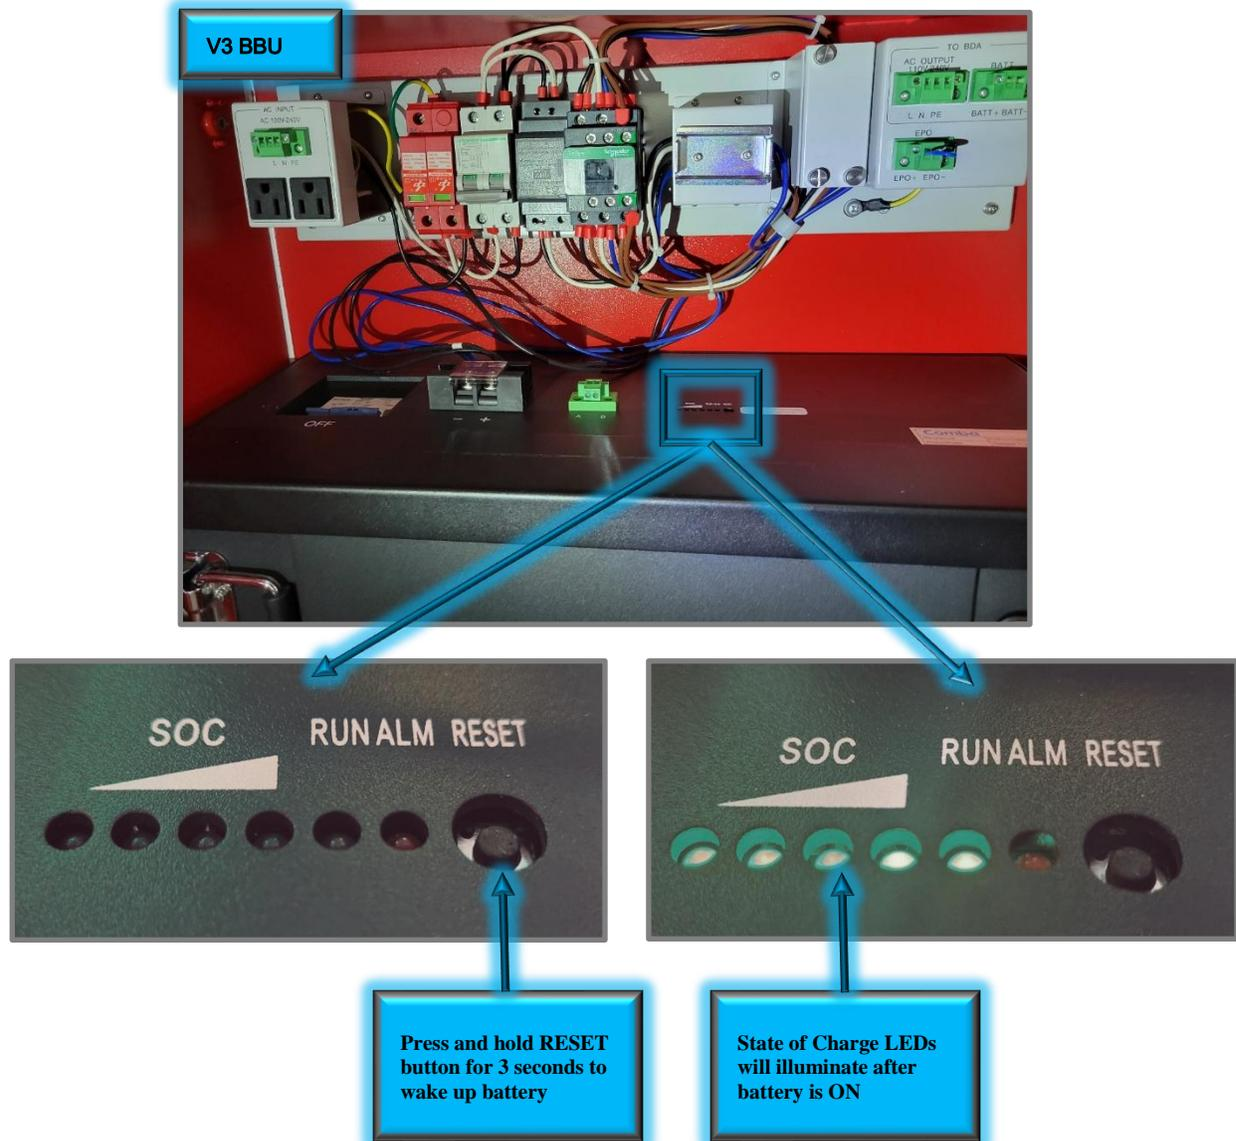

Figure 86: V3 BBU – Waking Up/Turning ON Battery
- Push and hold the recessed RESET button located on top of the LiFEPO4 battery for approximately 3 seconds to wake up the battery. Once the SOC (State of Charge) LEDs begin to illuminate, release the RESET button immediately (NOTE: Holding the RESET button longer than approximately 5 seconds will cause the battery to go back into sleep mode. If this occurs, repeat the step to “wake-up” the battery). See Figure 86 below.
- Push and hold the recessed RESET button located on top of the LiFEPO4 battery for approximately 3 seconds to put the battery to sleep. Once all the SOC (State of Charge) LEDs begin to extinguish, release the RESET button immediately (NOTE: Holding the RESET button longer than approximately 5 seconds will cause the battery to wake back up. If this occurs, repeat the step to “Put battery to sleep”). See Figure 86 for more details.
- The Battery has an ALM LED which illuminates RED if any issues are detected. To reset/clear the battery alarm, push and hold the recessed RESET button located on top of the LiFePO4 battery for approximately 10 seconds to reset the Battery MCU and clear any Battery Alarms. Once all the SOC (State of Charge) LEDs begin to re-illuminate, release the RESET button immediately. See Figure 86 for details on where the RESET button is located.